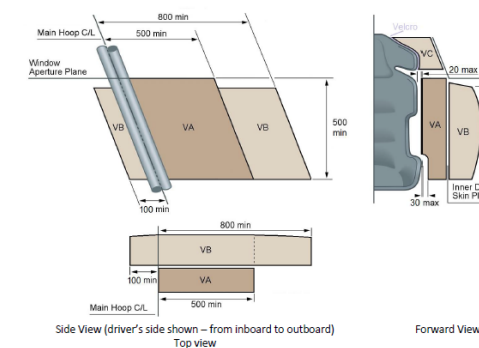

Figure 1. Minimum geometry for door foam and head foam volumes
2.2.1 FIA 8866 energy absorbing foam shall fill the entire volume defined by the lateral area of the seat-side-head projected outwards in a transverse direction to the side glazing or B-pillar (Volume C in Figure 1).
The foam shall conform to the minimum geometry shown in Figure 1, fulfilling the following additional requirements: